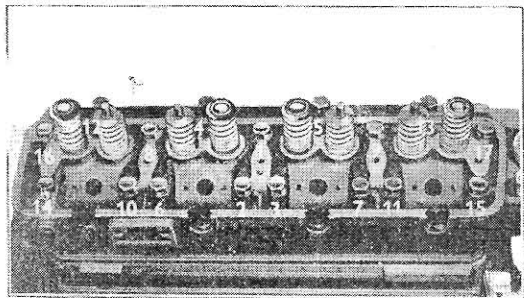

Fig. 29.
48. Assemble the cylinder head, remove the locating studs and fit the cylinder head screws. Tighten the screws evenly to a torque of 85 to 90 lbs. ft. (11.747 to 12.438 kg.m.) in the correct sequence as shown in Fig. 29.